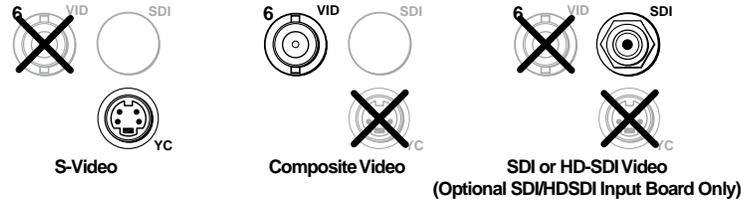

Figure 2-5 — Connections for input 6 video formats
- ④ **Input 6 video connectors** — Connect either an S-video, a composite video, or an SDI/HD-SDI video source to these connectors (figure 2-5).